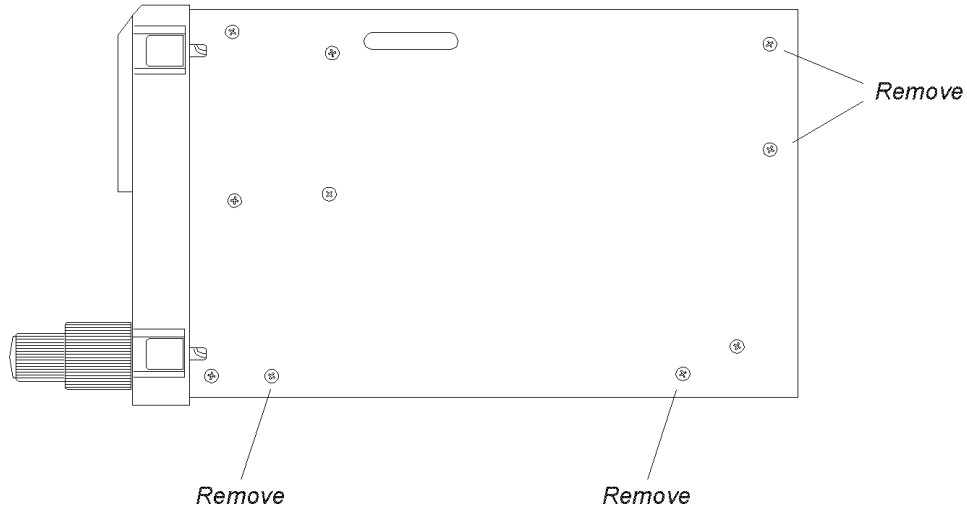

Figure 1. Screw Locations to Remove C-5000 Bottom Cover
1. Remove the bottom cover of the C-5000 to access the interface boards. The bottom cover is secured to the chassis by eight Phillips-head screws, four located on the left side and four located on the right side of the unit. See Figure 1.